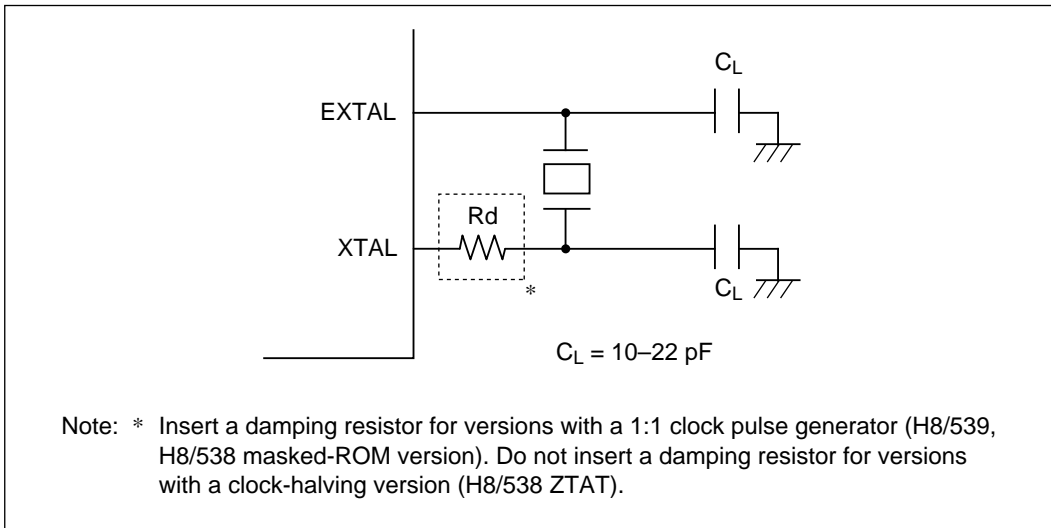

Figure 9-3 Connection of Crystal Resonator (Example)
(1) Circuit Configuration: A crystal resonator can be connected as in the example in figure 9-3. An AT-cut parallel resonating crystal should be used. For versions with a 1:1 clock pulse generator, insert a damping resistor as listed in table 9-1.